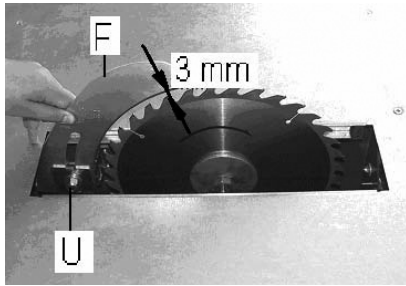

Fig. 15
The supplied raving knife must always be used. Disconnect saw from power source, unplug! The raving knife (F, Fig 15) is clamped with 1 nut (U).